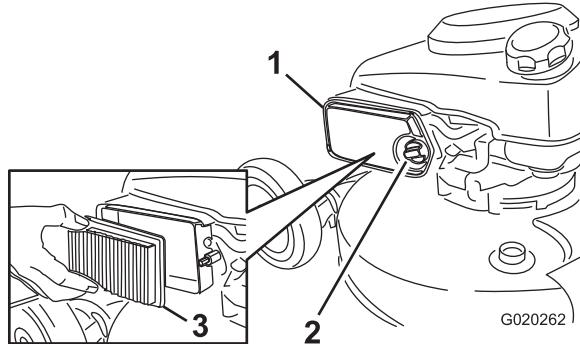

Figure 36
- Unscrew the knob and open the cover (Figure 36).
- Replace the air cleaner element (Figure 36).